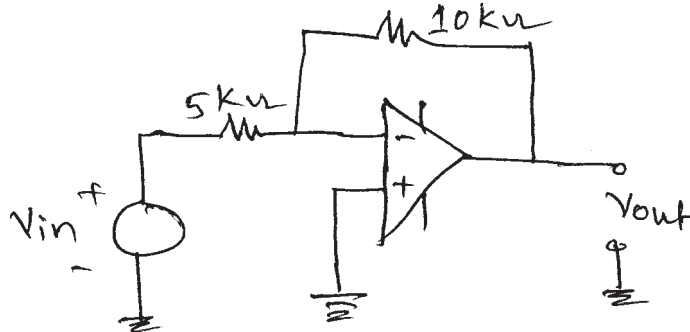

Figure 3
c) The input to the inverting amplifier shown in Figure 3 is a sine wave of amplitude 5 volts. If slew rate of op-amp is 1 V/ μ sec, find the frequency at which slew rate limiting occurs. [6]